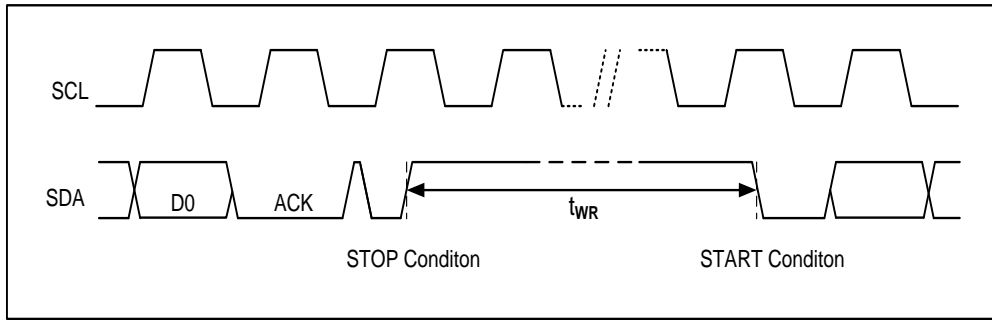

Figure 4-6
4.1.8、 Write Cycle Timing (see Figure 4-6)